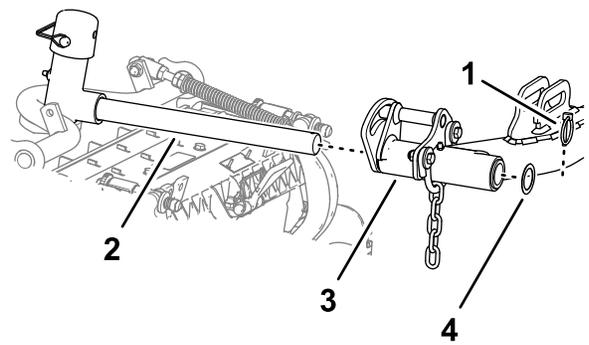

Figure 22
- Slide a cutting unit under the lift arm (Figure 22).